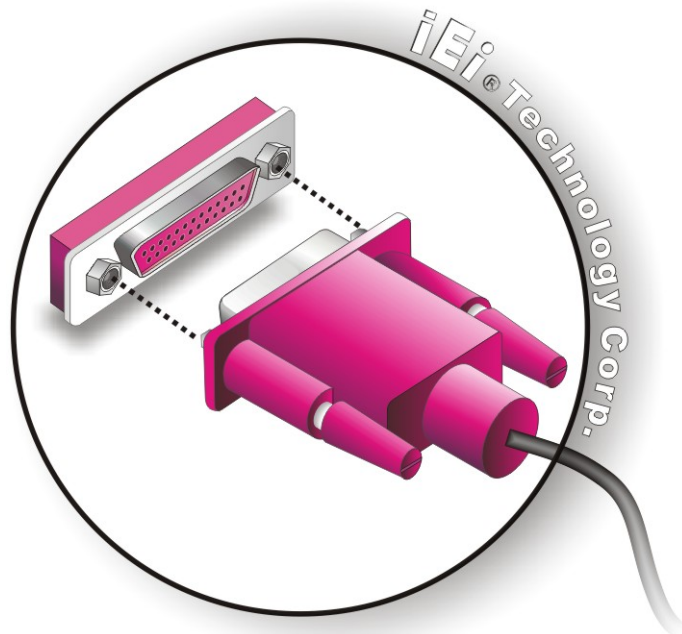

Figure 5-15: Parallel Device Connector
Step 4: Insert the DB-25 connector. Insert the DB-25 connector of a parallel device into the DB-25 connector on the external peripheral interface. See **Figure 5-15**.